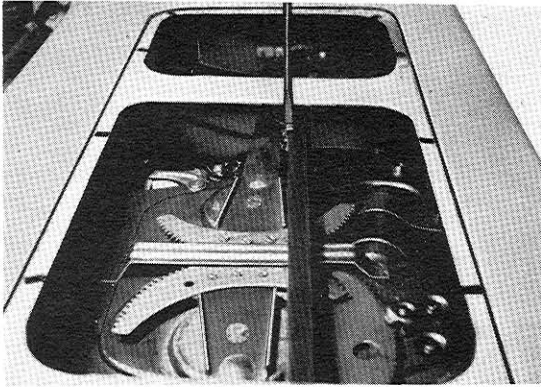

Fig.10-33 Removing Stop- B1208 per Plate
3. Remove the stopper plate, and remove the roller guide. Refer to Fig.10-33.